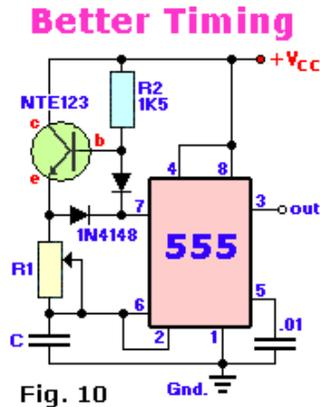

Fig. 10
**Fig. 10, Better Timing:** Better and more stable timing output is created with the addition of a transistor and a diode to the R-C timing network. The frequency can be varied over a wide range while maintaining a constant 50% duty-cycle. When the output is **high**, the transistor is biased into saturation by R2 so that the charging current passes through the transistor and R1 to C. When the output goes **low**, the discharge transistor (pin 7) cuts off the transistor and discharges the capacitor through R1 and the diode. The high & low periods are equal. The value of the capacitor (C) and the resistor (R1 or potentiometer) is not given. It is a mere example of how to do it and the values are pending on the type of application, so choose your own values. The diode can be any small signal diode like the NTE519, 1N4148, 1N914 or 1N3063, but a high conductance Germanium or Schottky type for the diode will minimize the diode voltage drops in the transistor and diode. However, the transistor should have a high beta so that R2 can be large and still cause the transistor to saturate. The transistor can be a TUN (Europe), NTE123, 2N3569 and most others.